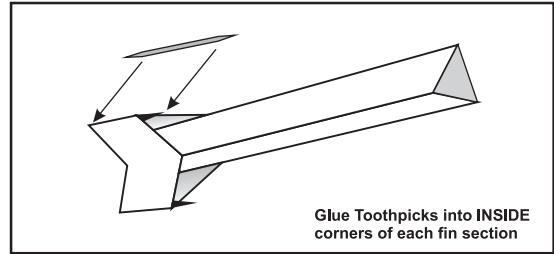

Figure 12
12. To add strength to the Fin Unit, it is recommended that you glue toothpicks into the inside corner of each corner of the Fin Unit as shown in **Figure 12**.